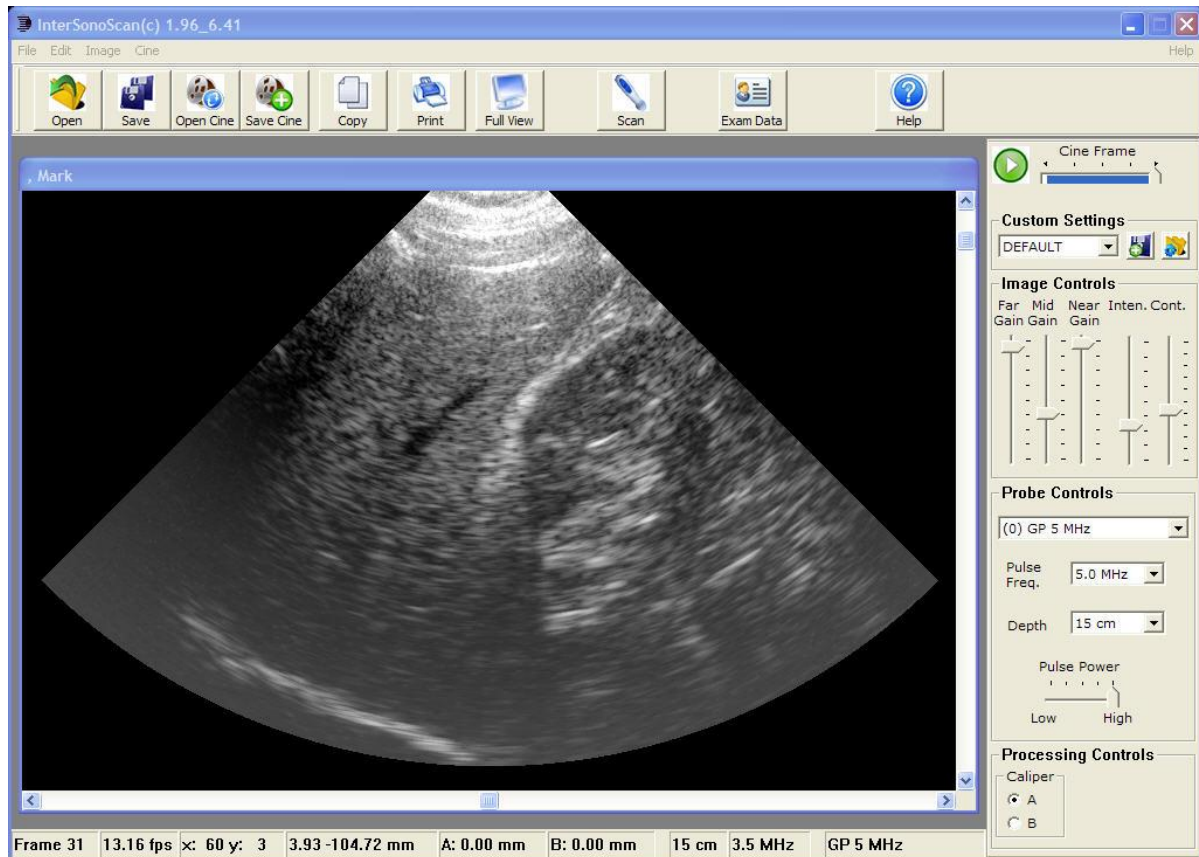

Figure 1
- USB Probe's main window comprises the commands shown in Figure 1.